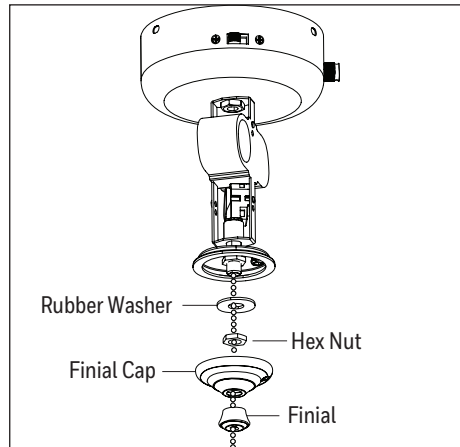

Figure 2.11
11. **To INSTALL THE FAN WITHOUT THE LIGHT KIT**, proceed to page 7. To install the light kit, remove the preassembled finial, finial cap, hex nut, and rubber washer from the light kit (Figure 2.11).